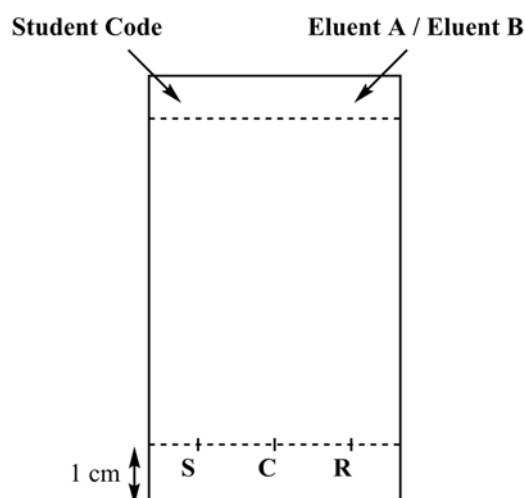

Figure 3. TLC plate preparation
- Prepare your TLC plate.** Use a pencil to **draw** carefully the start line (1 cm above the bottom of the plate) and **mark** the positions in order to spot the 3 samples. **Label** them **S** (Starting material), **C** (Crude product) and **R** (Recrystallised product), as described in Figure 3. On the top left of the plate, **write** your **Student Code**. On the top right of the plate, **write** the eluent you use (first **Eluent A**, then **Eluent B**). **Spot** the three samples on the plate, using capillary spotters.